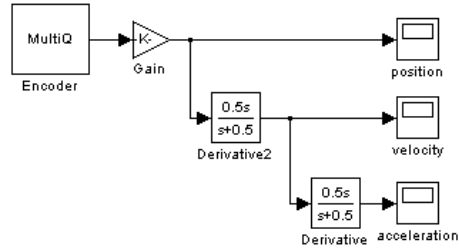

Fig 3.4: Simulink block diagram
- Wincon program can be used to plot the displacement, velocity, and acceleration vs. time graphs. The following MATLAB Simulink block diagram, shown in figure 3.4,
was used in obtaining the velocity and acceleration signals from the captured position signal as shown in figure 3.4.